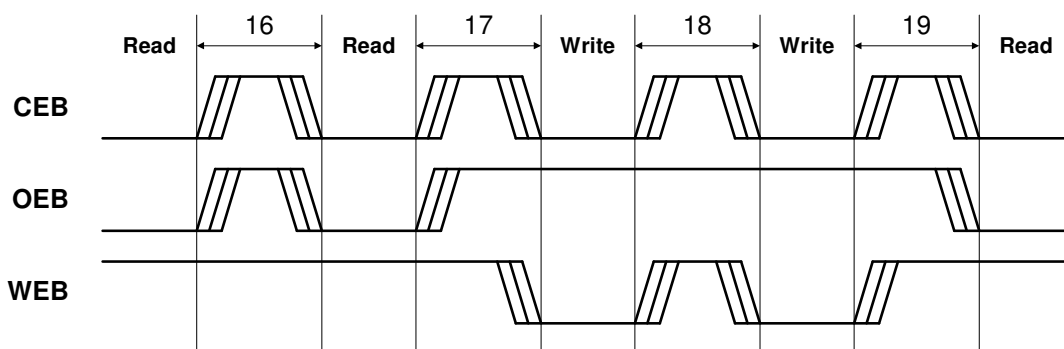

Figure 3. Read/Write Access Inactivity Time
**Note 1:** Prior to starting a read or write access, CEB, WEB and OEB have to be stable for at least 5 ns (see symbol 3, 4, 8, 9). In addition the designer has to consider the minimum inactivity time according to symbols 16, 17, 18, 19. See Figure 3 for more information on the inactivity times.